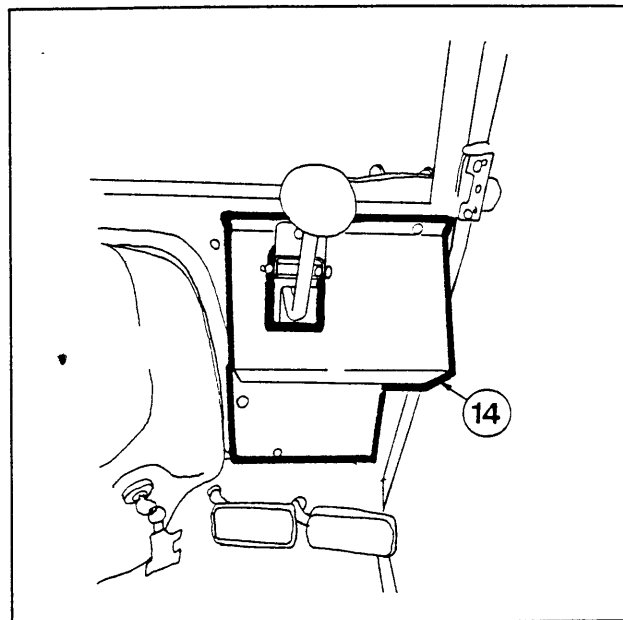

Figure 13
hydraulic control boxing (14) and position it over the loader valve against the inside of the cab frame. Screw the shield to the frame using the 1/4"x3/4" self-tap screws supplied. Reattach the quick-attach loader. (see Figure 13)